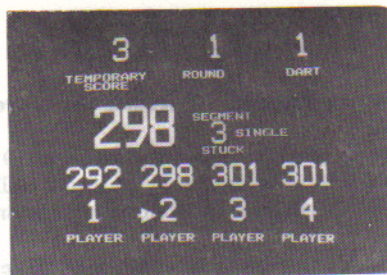

Figure 2. Stuck segment indicator display
9. **Stuck segment indication** on screen to immediately let the player know to check for broken tips or any other foreign objects holding a segment back. It indicates which segment is closed by flashing its location on the screen. (See Figure 2.)